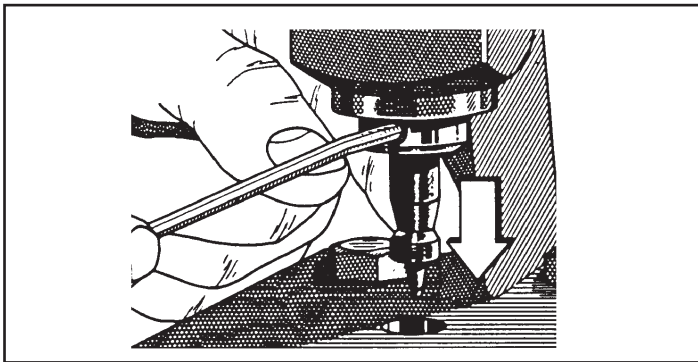

Figure 15. Removing the Punch
1. Remove the punch by loosening the set screw (Figure 15).